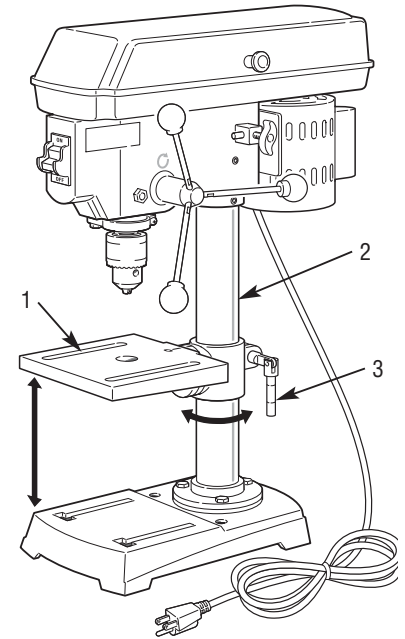

FIGURE 12. ADJUSTING THE WORK TABLE
1. The worktable (1) can be raised or lowered on the drill press column (2) by loosening the table clamp (3). See Figure 12.
2. After the table is positioned at the desired height, LOCK the table in place by tightening the table clamp (3). NOTE: Final positioning of the table should always be made from the bottom to the up position.
3. The worktable (1) can be rotated 360 degrees around the column (2) by loosening the table clamp (3). Rotate the table to the desired position and LOCK the table in place by tightening the table clamp (3). See Figure 12.